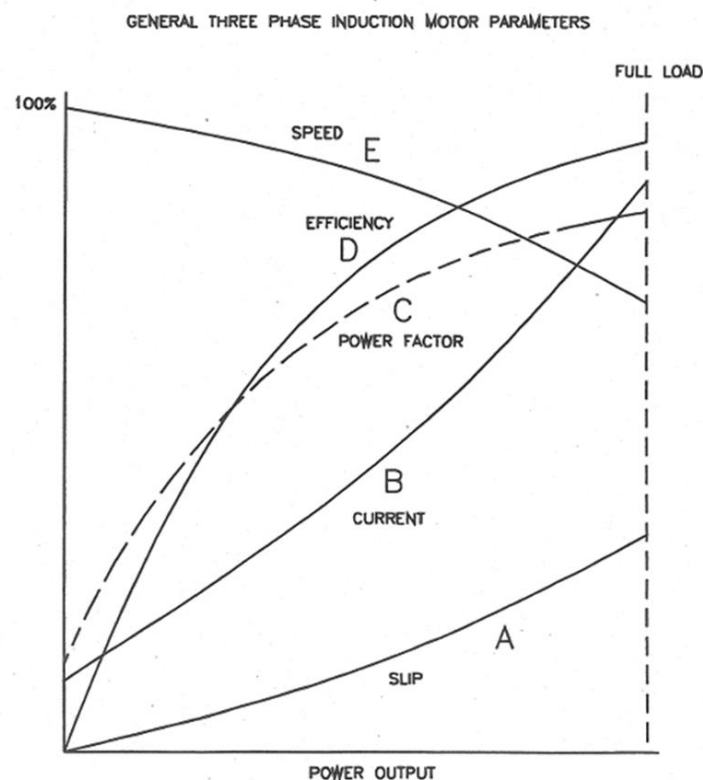

Figure 8 – Typical operating parameters.
55. Figure 8 shows a summary of the operating parameters of a typical three phase squirrel cage induction motor.
Note: In Figure 8, the left hand Y axis is the synchronous speed of the magnetic field of the motor, the right hand Y axis is the full load rotor speed.